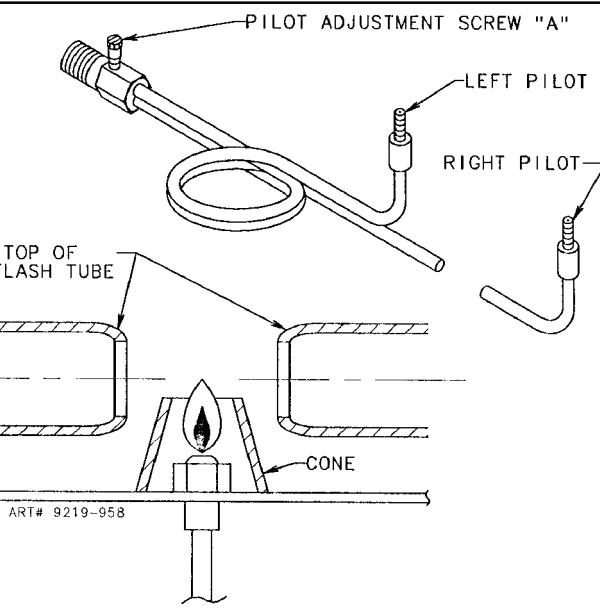

FIGURE 6
- c. Models with standing pilots: Adjust burner pilots. (See figure 6). Turn the selector switch on the face of the thermostat to the LP position.
- c. Models with standing pilots: Adjust top burner pilots. (See figure 6). Turn the selector switch on the face of the thermostat to the Nat. position.